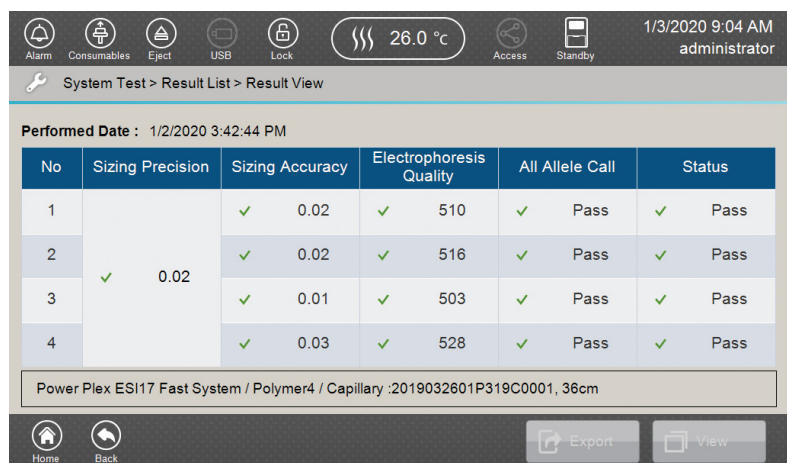

Figure 212. Fragment System Test 'Result View' screen.
3. Select **View** in the footer to review the detailed results of the system test in the 'Result View' screen (Figure 212). **View** and **Export** do not become active until a sample is selected.
4. Select **View** in the footer to view the list of four samples in that system test in the 'Result View' screen (Figure 212).